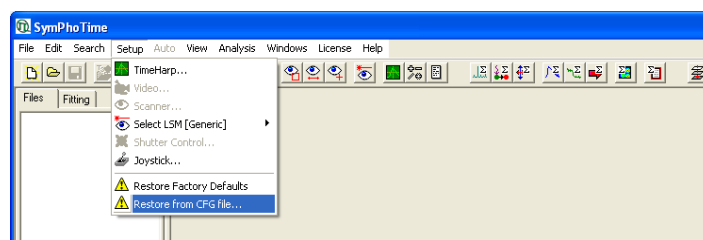

Fig. 4.1: SymPhoTime Menu for restoring the LSM Upgrade Kit setting
- Use “restore from CFG-file” in the Set-up menu (Fig. 4.1). Apart from the designed folder “settings” in the computer, the original settings of the LSM-Upgrade Kit are stored in the “MicroTime 200.cfg” file on the external USB memory storage delivered with the instrument.